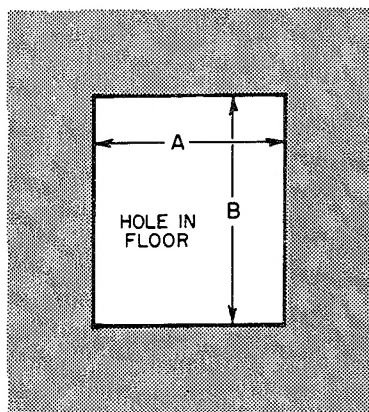

Figure 3—Floor Opening for Concrete Slab
2. Construct hole in floor per dimensions in Figure 3 and Table IV.